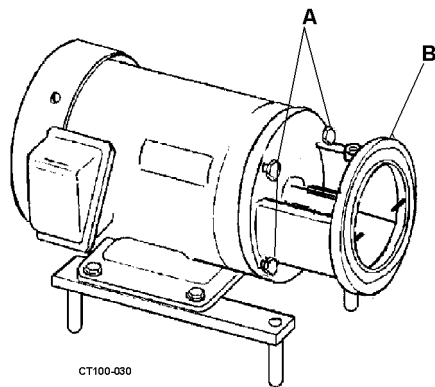

Figure 20 - Removing the Adapter
2. Remove the bolts securing the adapter (Figure 20, items A and B) to the motor frame and remove the adapter.